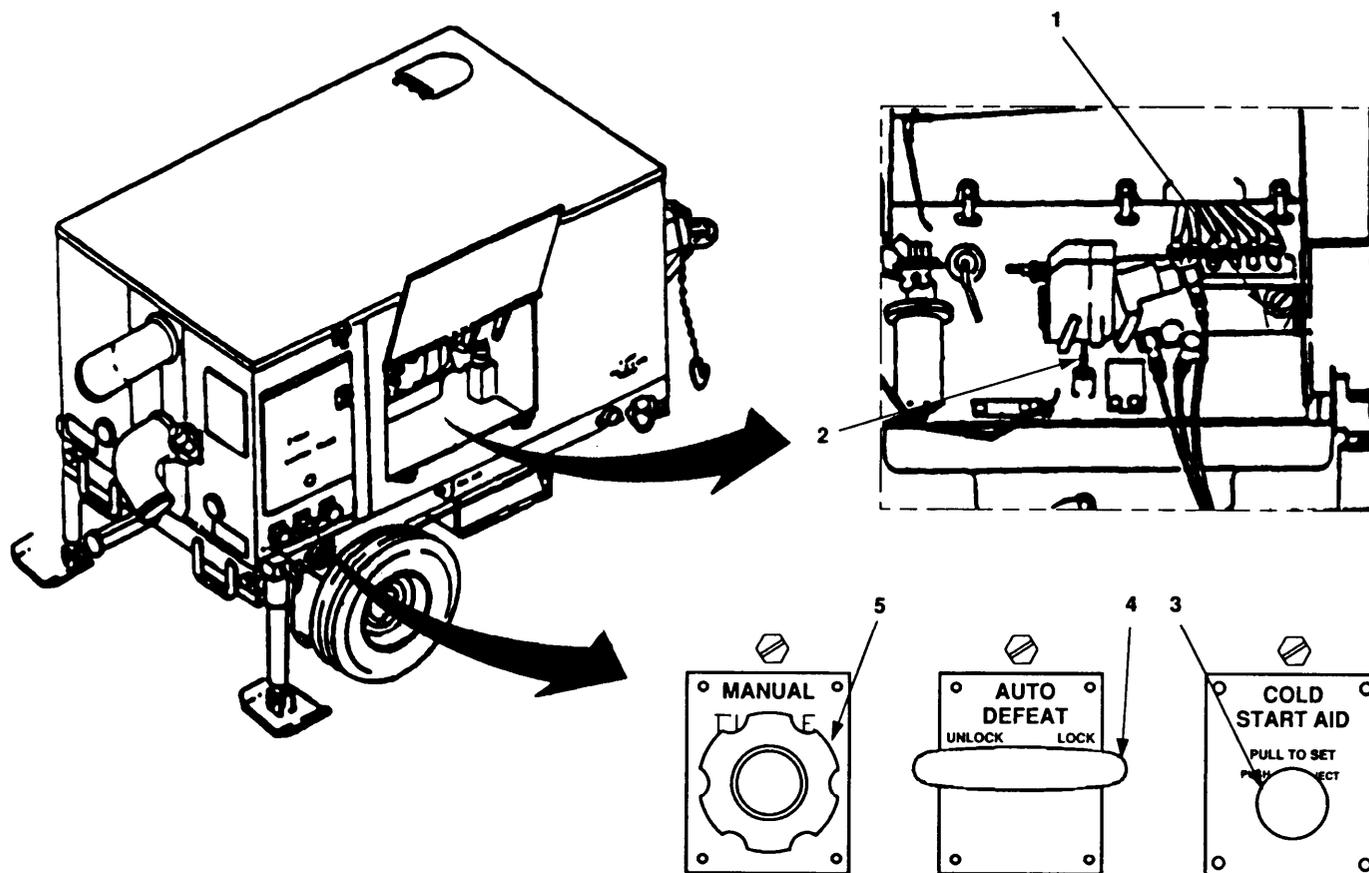

Figure 2-4. Model 609-C Engine Controls and Indicators.
2.1.2.2 Engine. Refer to Figure 2-4 and Table 2-4.